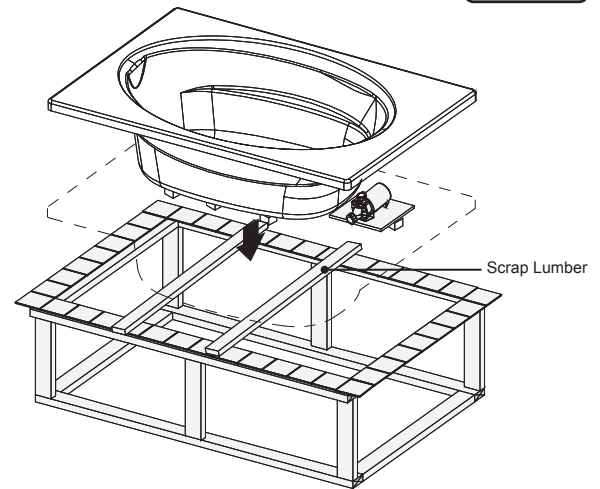

Fig. 5
2. Place a piece of scrap lumber on each of the ends of the cutout – this will be used as a temporary support prior to lowering the bathtub fully into the opening (Figure 5).